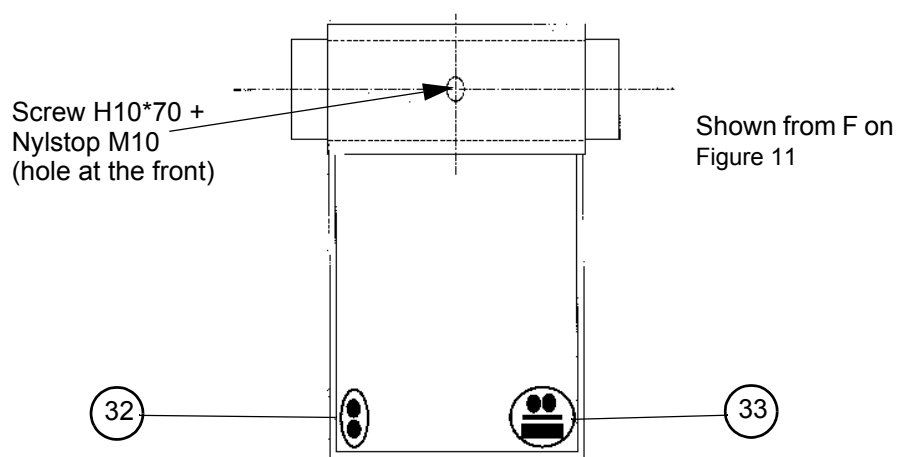

Figure 12
- Attach the cables and hoses inside the element with HB20 collars (32) for hoses C1 and R1 and HB33 collars (33) for hoses C2, R1, 4-wire and 42-wire cables (shown from F-Figure 12).